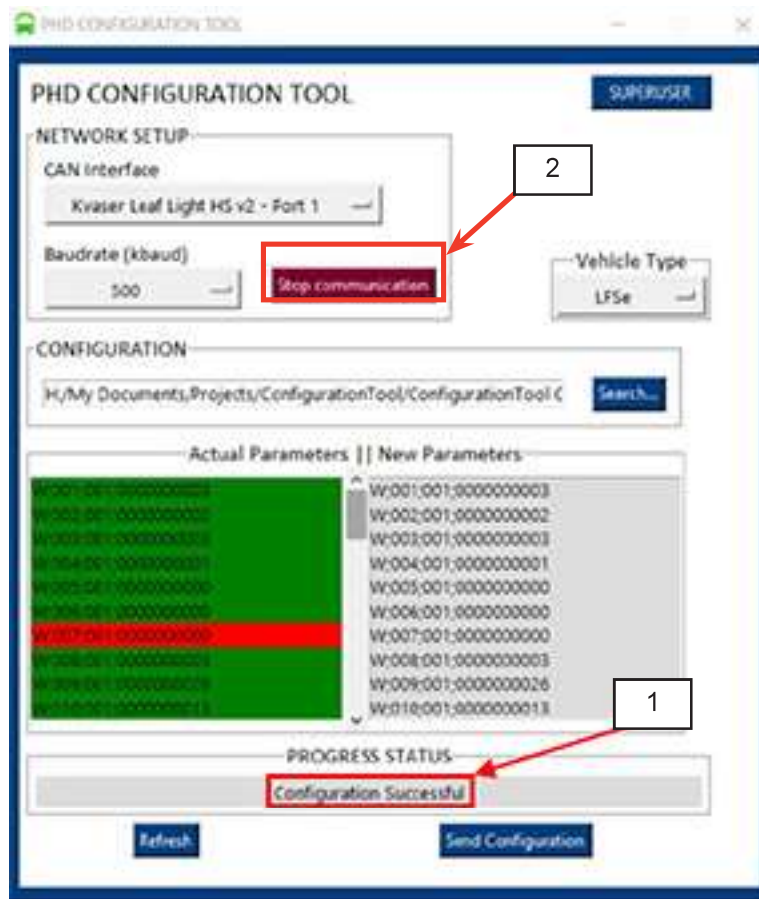

Figure 19 - PHD Configuration Completed with success
- 1.27. Verify that the download is completed successfully (1). If an error message appears, contact your customer support manager. See Figure 19.
- 1.28. Click the **Stop Communication** (2) button and keep the program open. See Figure 19.